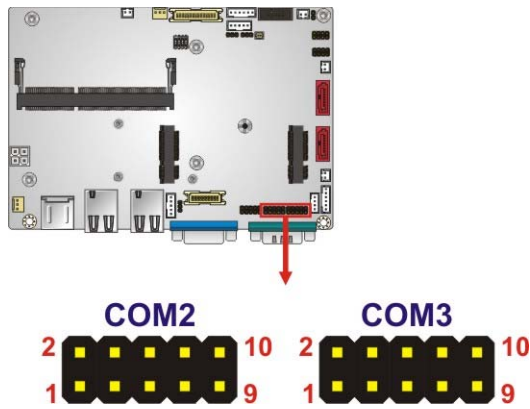

Figure 3-16: RS-232 Serial Port Connector Locations
- CN Location:** See **Figure 3-16**